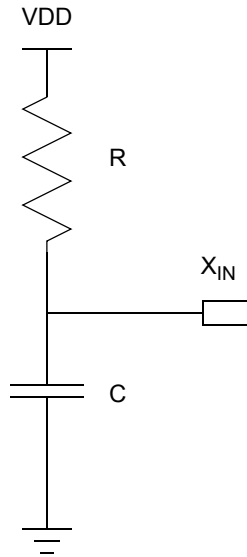

Figure 28. Connecting the On-Chip Oscillator to an External RC Network
Figure 28 illustrates a recommended configuration for connection with an external resistor-capacitor (RC) network.